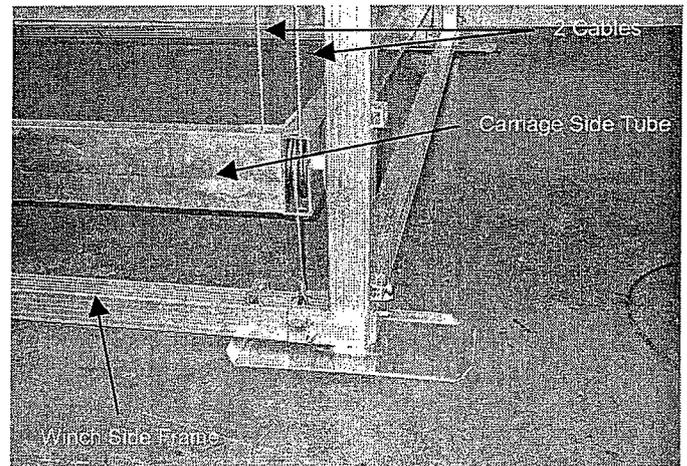

FIG. 18
1. Review FIG. 18, 19, and 20. Note the two cable ends coming out of the top of the carriage assembly. Note that on the end of the cables there is a threaded stud, washer and nut.